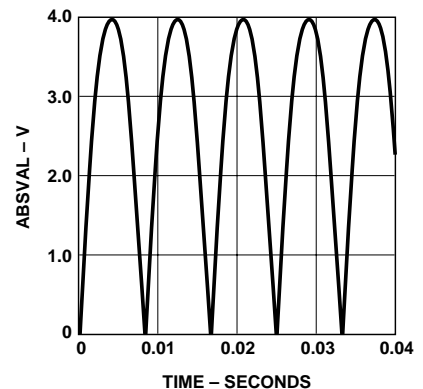

Figure 24. ABSVAL with 1 phase.
4.6: Why is gain defined as V_{REF}/504 mV, not V_{REF}/512 mV as expected, based on Figure 24?	Ideally gain would be V _{REF} /512 mV, however, due to internal settling characteristics, the average effective value of the internal 256 mV reference is 252 mV.